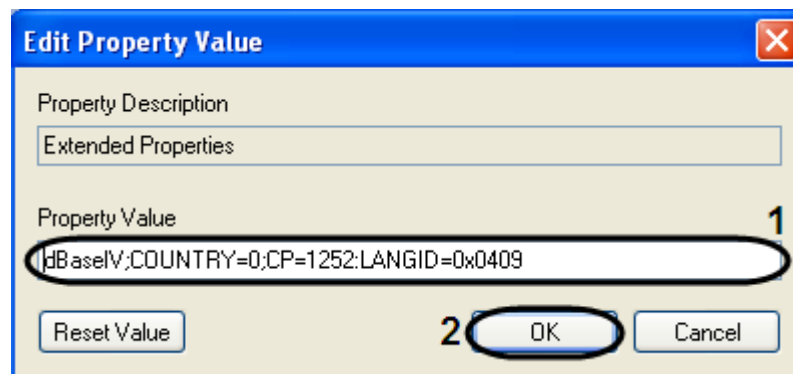

Fig. 9.3-7 Edit property value
10.7. In the opened window «Edit property value» enter the changes in the field Property value (Fig. 9.3-7, 1).
10.8. Click Ok to save the changes (Fig. 9.3-7, 2).